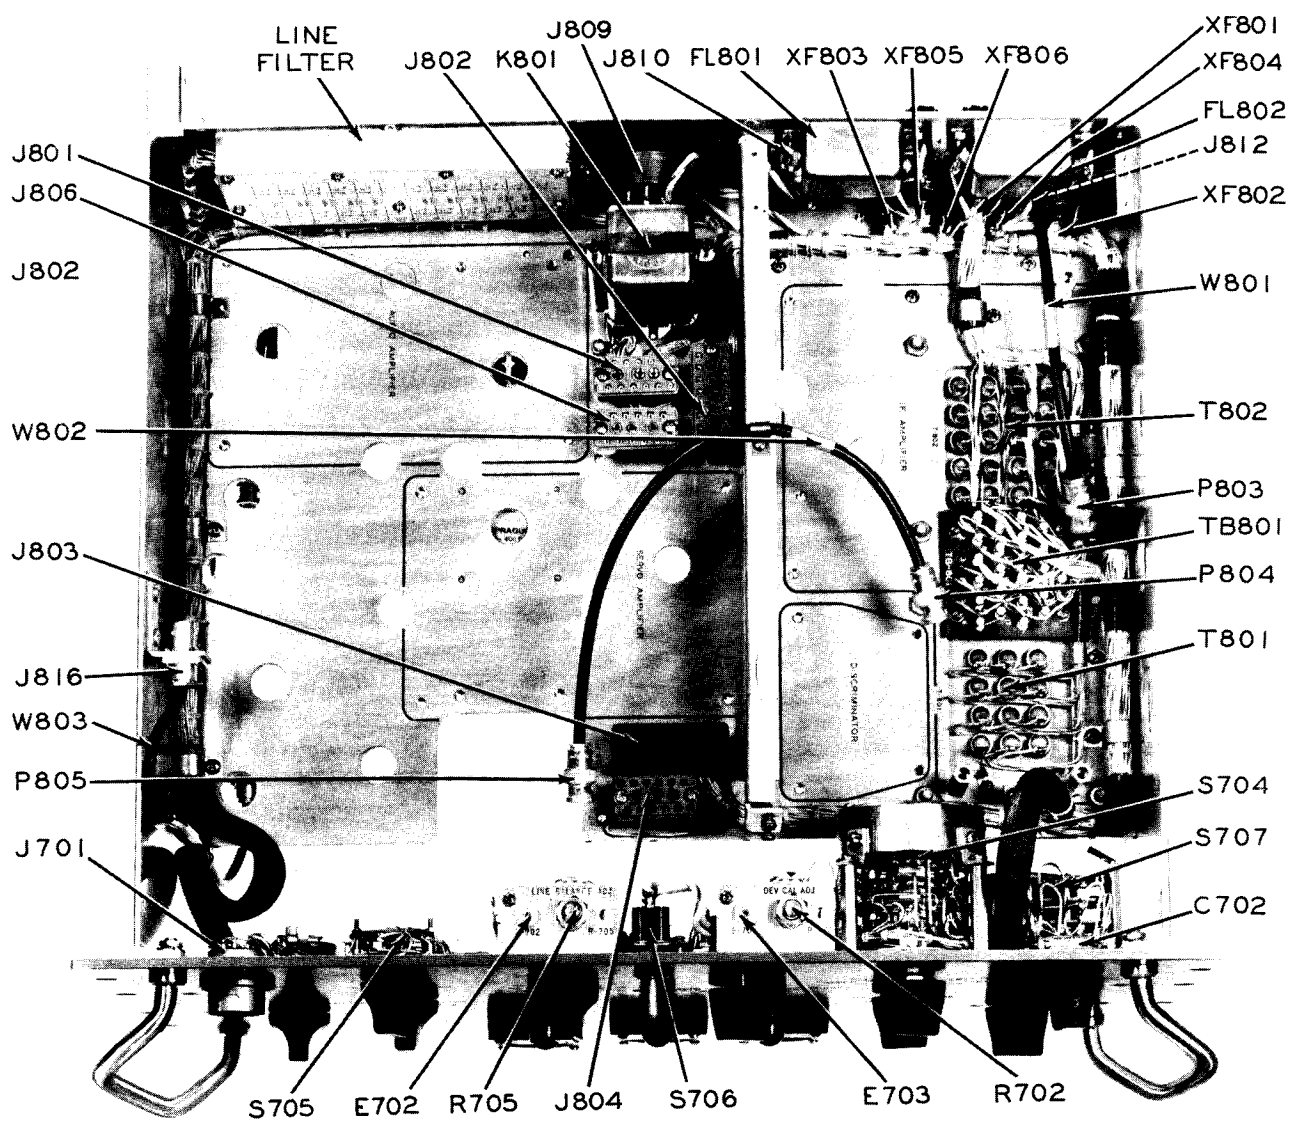

Figure 104. Main frame and front panel, bottom.
- b. Unlock DEV CAL ADJ potentiometer R702 (fig. 104).
- h. Unlock LINE BAL ADJ potentiometer R705 (fig. 104).
- f. Unlock the DEV CAL ADJ potentiometer R702 (fig. 104).